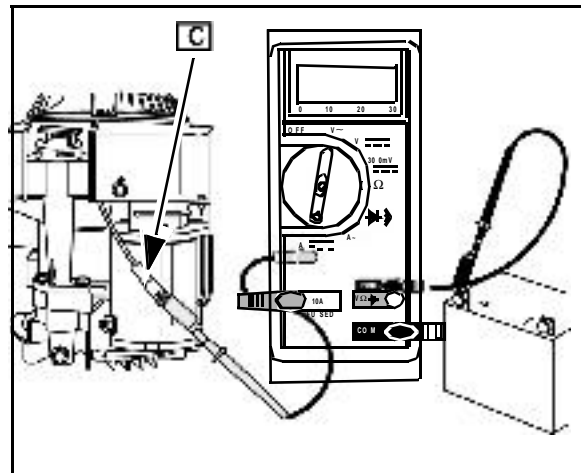

Fig. 18
2. Attach RED test lead clip to DC output pin ([C] Fig. 18) in connector.